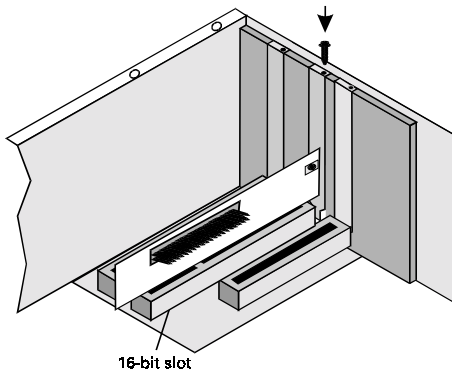

Figure 2-16: Fastening the IDE CD-ROM interface card to your system.
4. Secure the interface card to the expansion slot with the screw you removed from the metal plate (see Figure 2-16).